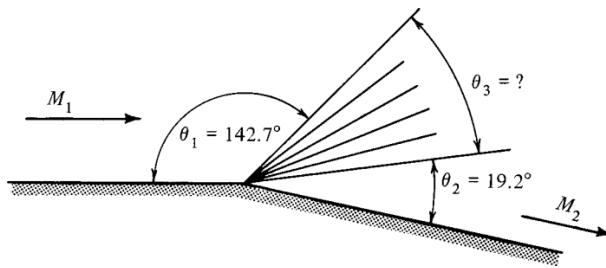

Figure P8.2
- 8.2** A Schleiren photo of the flow around a corner reveals the edges of the expansion fan to be indicated by the angles shown in Figure P8.2. Assume that  $\gamma = 1.4$ .
(a) From Figure P8.2, we find  $\theta_1 = 147.2^\circ$ ,  $\theta_2 = 19.2^\circ$ .